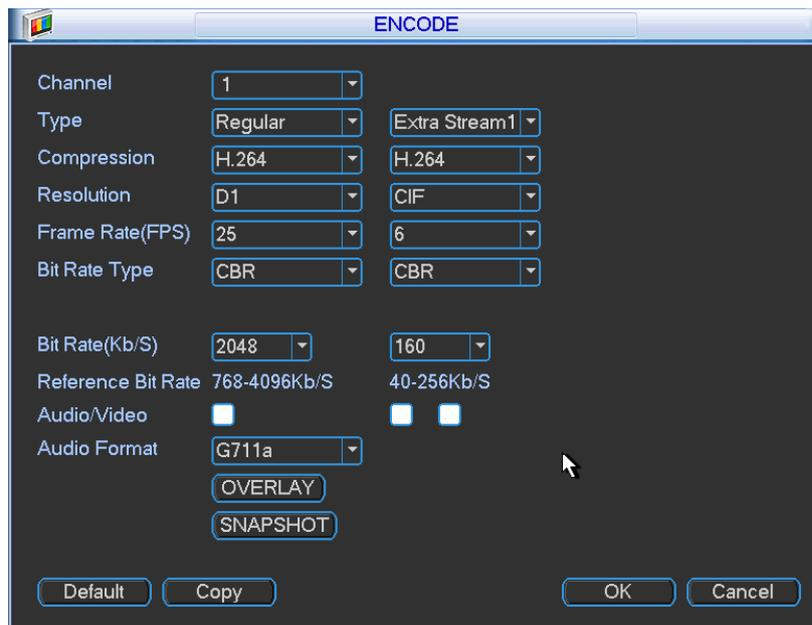
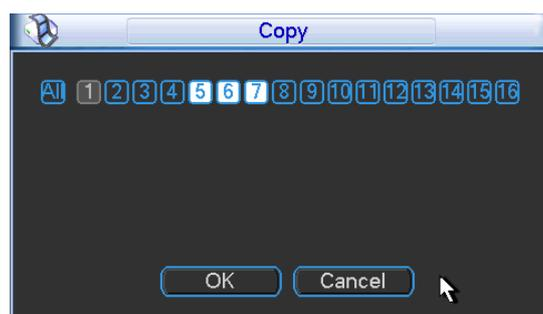
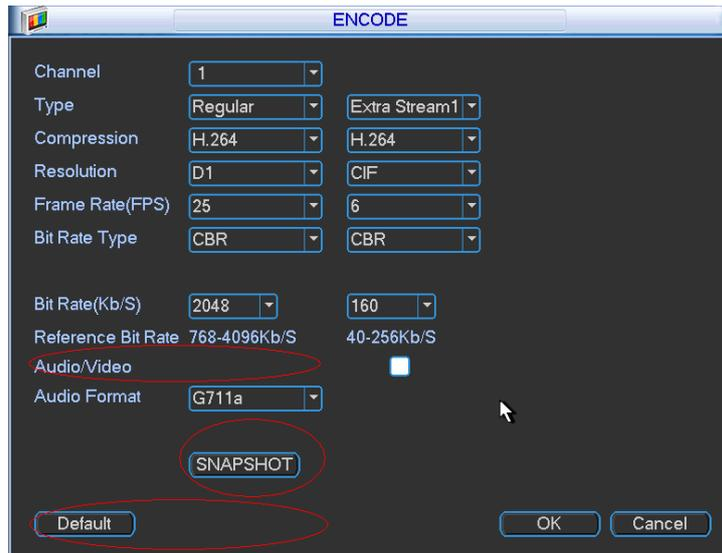

Figure 5-6
Figure 5-8
Figure 5-9
Encode setting includes the following items. See Figure 5-6.
- ✧ Copy: After you complete the setup, you can click Copy button to copy current setup to other channel(s). You can see an interface is shown as in Figure 5-8. You can see current channel number is grey. Please check the number to select the channel or you can check the box ALL. Please click the OK button in Figure 5-8 and Figure 5-6 respectively to complete the setup. Please note, once you check the All box, you set same encode setup for all channels. Audio/video enable box, overlay button and the copy button is shield. See Figure 5-9.